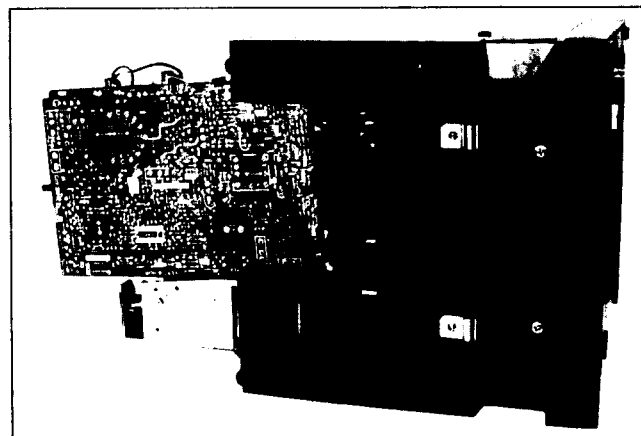

Fig. 7-8
2. Measure voltage and waveform of the power/def. PB by positioning the unit in the condition shown in Fig. 7-8. When parts replacement is required, remove as necessary the connectors, wires, or clamps— including the deg. coil connector and the anode wire— and also withdraw the power/def. PB.